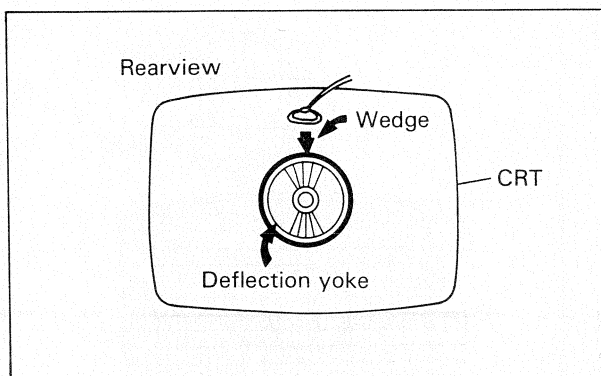

Fig. 2-9
- 3) Adjust convergence roughly in the corner by tilting the deflection yoke vertically or horizontally, then insert a wedge between the yoke and CRT on top. (Fig. 2-9).